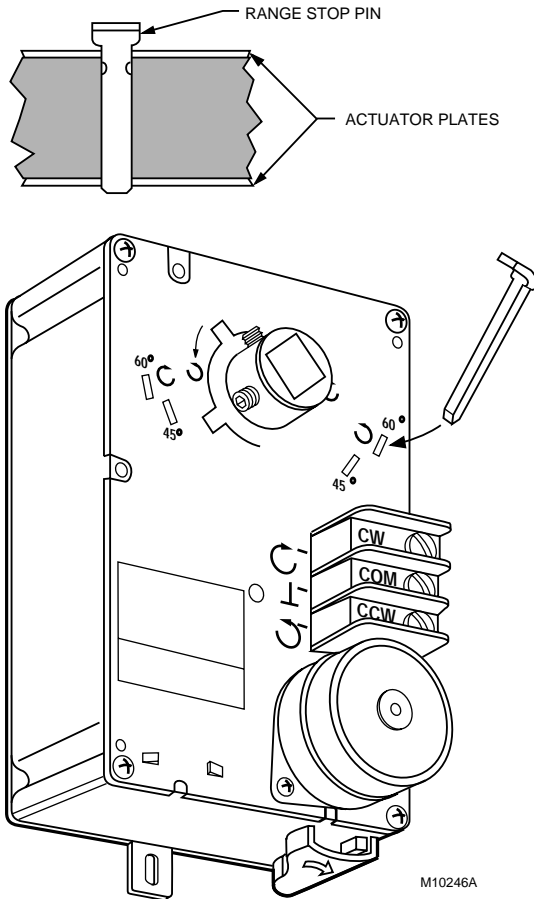
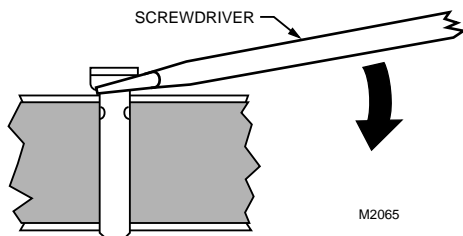

Fig. 6. Range stop pin properly inserted.
Fig. 7. Lifting a range stop pin out of its slot.
3. Insert the range stop pin into the appropriate (cw or ccw) 45° or 60° slot. The range stop pin is clipped into its final position only after the pin passes through both actuator plates (see Fig. 6). The range stop pin should snap into position and not be removable manually (see Fig. 7).
Certain ML6131 models are equipped with two tapped holes located in the plastic housing at the top of the actuator. These holes can be used with the minimum position setscrew and locknut inside the 4074ENJ Bag Assembly (see Fig. 6). The setscrew provides for a 0° to 30° minimum position adjustment.